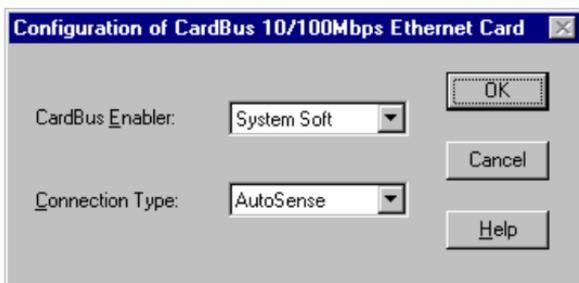
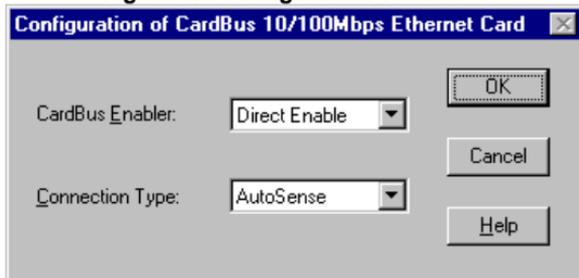

Figure 5.6 Configuration Window-1
Figure 5.7 Configuration Window-2
7. In the *Configuration of ENW-3502-FC* window, Figure 5.6, select the desired connection type from **Connection Type** pull down menu. The **CardBus Enabler** option determines whether the CardBus controller is enabled directly by the driver or by third party cardbus controller utility (like SystemSoft CardWizard). If SystemSoft CardWizard For Windows NT™ is installed, **SystemSoft** should be selected (as Figure 5.6) otherwise leave this option as **Direct Enable** (as Figure 5.7). After selecting desired configuration, click **OK** to continue.